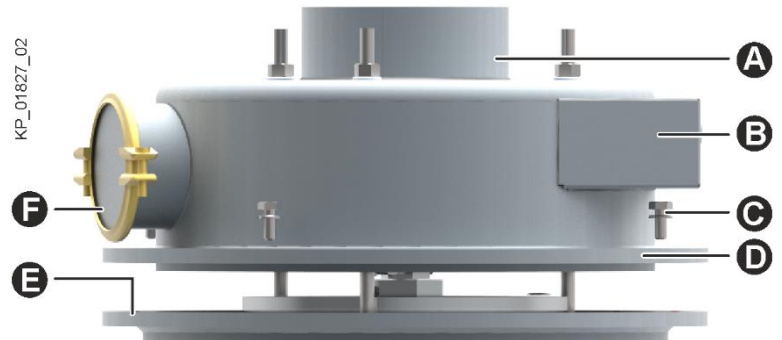

Fig. 23: Mounting the dust hood
- Put on the dust hood (Fig. 23/D):
- Pay attention to the position of the seal (Fig. 23/E) in the upper part!
- Fasten the dust hood (Fig. 23/D) at the upper part with screws (Fig. 23/C).
- Reach through the product inlet (Fig. 23/A) and pull the hoses of the hydraulic nut laterally through the opening in the dust hood (Fig. 23/B) and secure them with spring plugs.